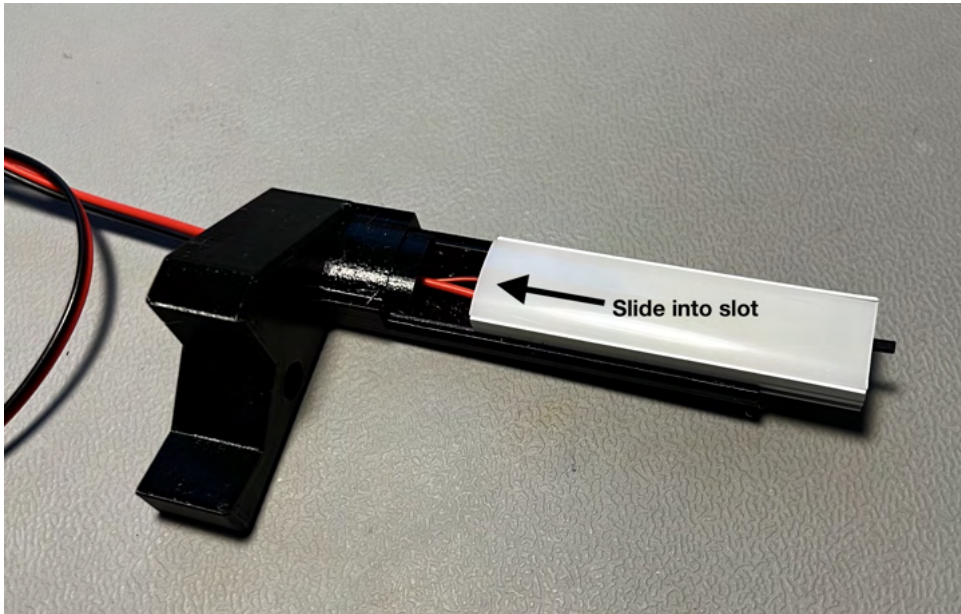

Figure 11: How to slide in the LED light into the 3D printed holder.
1. Start by sliding the wiring through the slot provided. Next, insert the LED light into the 3D printed holder, as illustrated in Figure 11. Slide it all the way in until it is flush with the end.